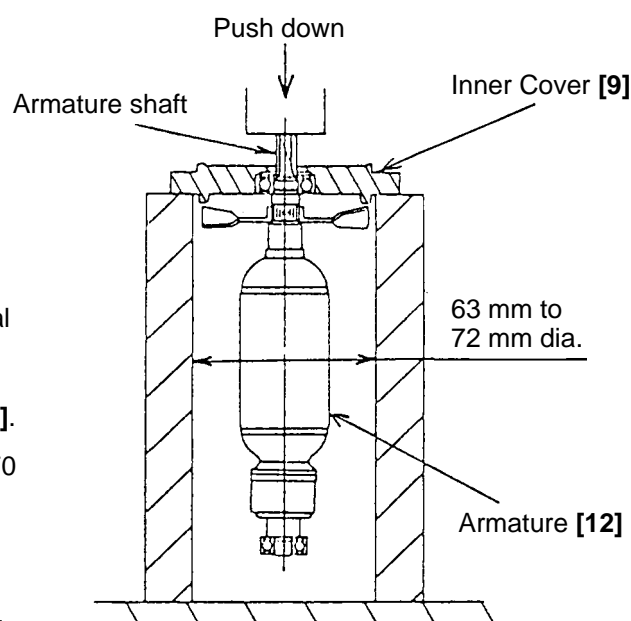

Fig. 1
- ① Loosen the Brush Caps **[39]** and take out the Carbon Brushes **[40]**.
- ② Loosen the four Tapping Screws D5 x 30 **[1]**, remove the Gear Cover **[2]**, and take out the Armature **[12]** together with the Inner Cover **[9]** in a single body from the Housing Ass'y **[30]**.
- ③ As illustrated in Fig. 1, support the Inner Cover **[9]** with an appropriate tubular jig (inner diameter: 63 mm to 72 mm), and press down on the pinion portion of the armature shaft with a hand press to loosen and remove the Armature **[12]**.